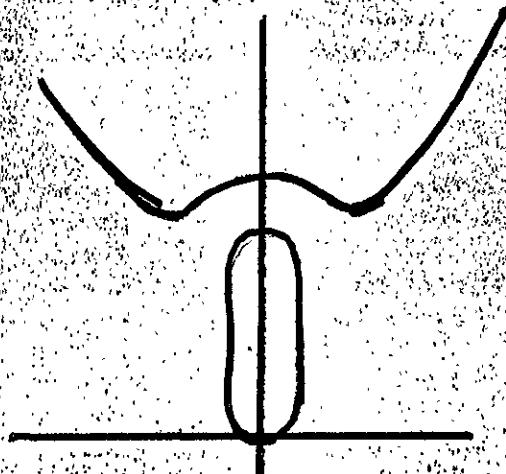

FIGURE 11
- d. Using holes in plate as guide, drill fifteen (15) #10 (.194) holes thru hull.
- f. Install two Bumpers 17F42267-1 as follows referring to Figure 11:
- (1) Position of bumpers on right side of tail boom is to be determined by tail wheel fork in retracted and full swivel position. Mark location of interference with fork on tail boom.
- (2) Place bumpers at points of interference and using holes in bumpers as guides drill four #19 (.166) holes for each bumper.